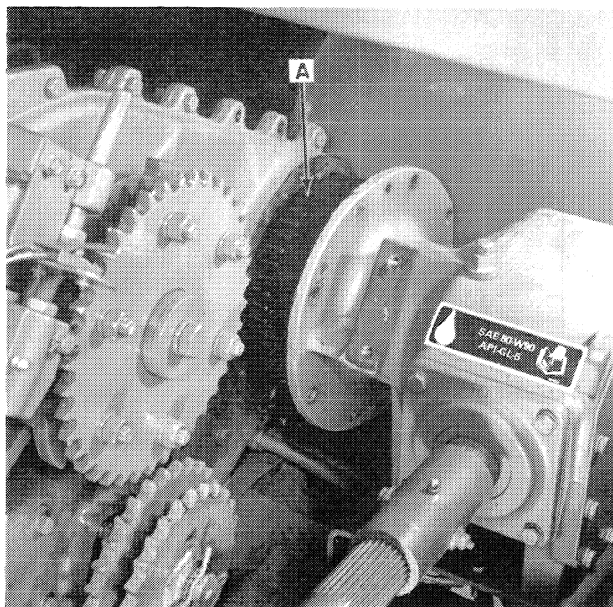

FIGURE 2-34
15. Separate the reversing gearbox from the bevel gearbox so the gear, A, Figure 2-34, is outside the case. Lift the gearbox out of the harvester.